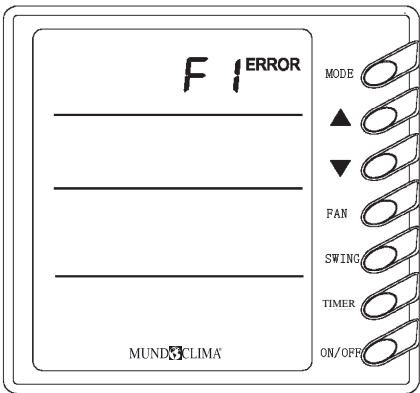

Fig.6
9) Malfunction display (Fig.6)